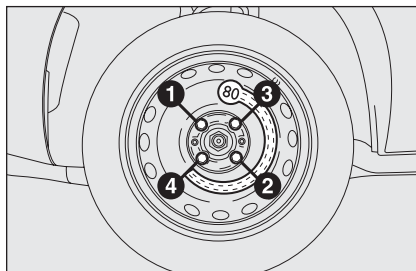

fig. 15
- using the wrench provided, fully tighten the bolts in the sequence shown previously in figure **fig. 15**.
- using the wrench provided, fully tighten the bolts in the sequence shown in **fig. 15**.